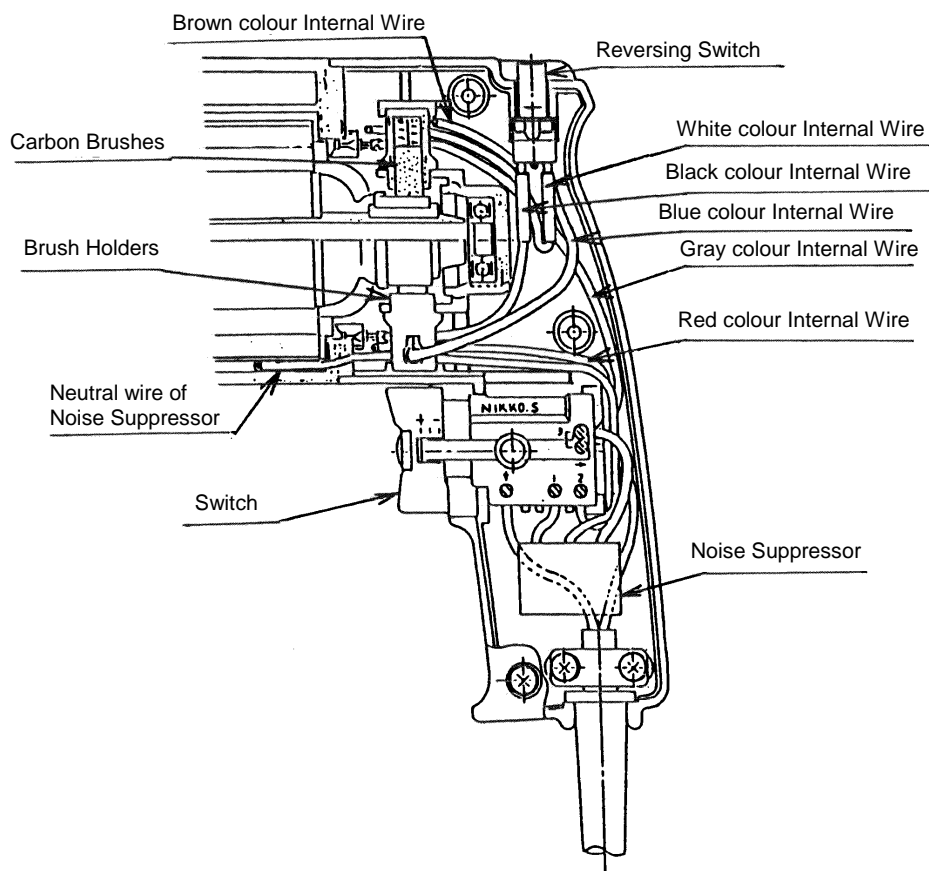

Fig. 11 Models FDV16VA and FDV20VA
Leadwire arrangements are illustrated in Figs. 11 through 14. When mounting the Handle Cover (44), be particularly careful not to pinch any of the leadwires.
- (2) Carefully ensure that the connectors on the leadwires which are connected to terminals 3 and 6 of the Reversing Switch (56) are inserted fully and securely inside the terminals, and that there are no exposed wires. (Models FDV16VA and FDV20VA only).
- (3) Ensure that the terminal of the neutral wire from the Noise Suppressor (48) is properly inserted into the chamber provided between the grooved portion of the Housing (39) and the Stator (36), as illustrated in Figs. 11 and 12.
- (4) Wiring Diagrams: